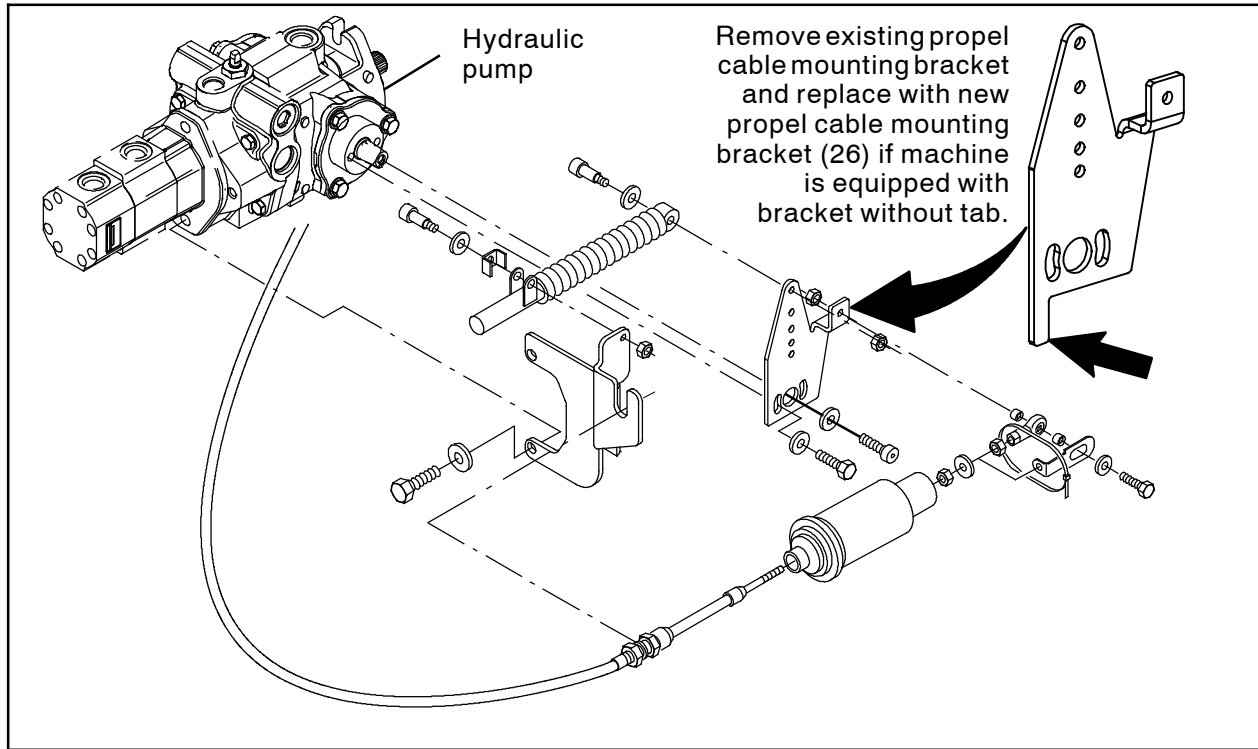

FIG. 2
5. Check the propel cable mounting bracket on the hydraulic pump. If propel cable mounting bracket has a tab located on bottom of bracket proceed to the *INSTALLATION* section. If the propel cable mounting bracket does not have tab located on the bottom of bracket, replace existing propel cable mounting bracket with new propel cable mounting bracket (26). (Fig. 2)
6. If the propel cable mounting bracket was replaced, adjust the new propel cable mounting bracket (26) so the machine does not move instantly upon start up, before the directional pedal is used to move the machine.